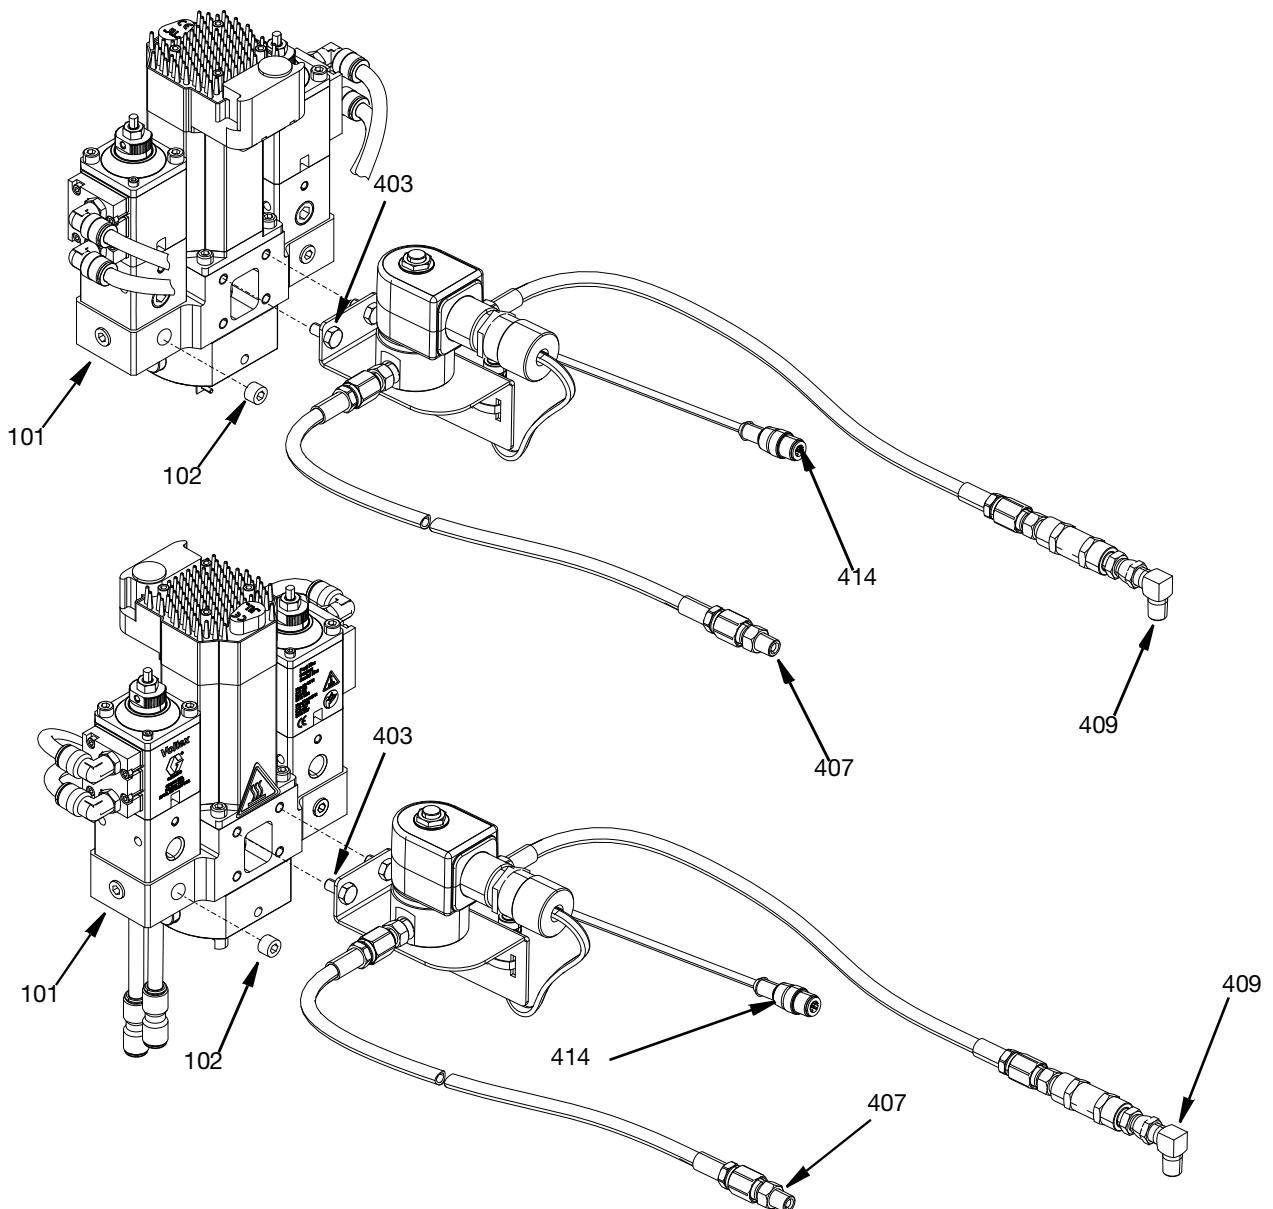

FIG. 53
4. Remove the pipe plug (102) from the base housing (101).
5. Assemble the high pressure gas nucleation kit onto the valve base housing (101) with the 2 Cap screws (403). The gas nucleation kit can be assembled either remotely or onto the Voltex Dynamic Mix Valve as shown in FIG. 53.
6. Install the gas inlet port pipe elbow (409) into base housing (101)
7. Connect incoming gas from the customer supplied source to the adapter fitting (407).